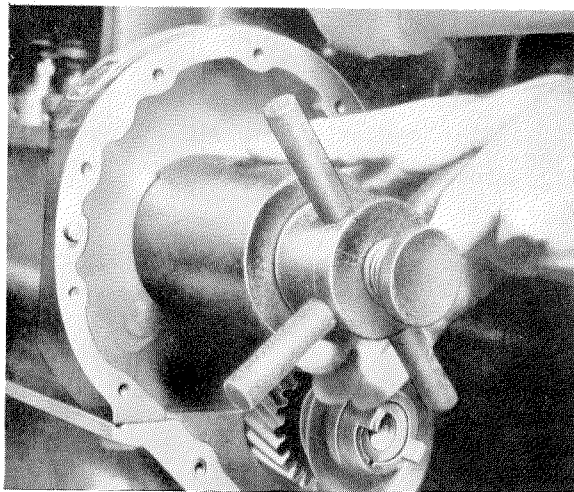

Figure 05-35/2
15. Pull the camshaft with the camshaft bearings out of the crankcase with the Extractor Part No. 136 589 10 33 (see Figure 05-35/2).
16. Drive out the rear and 3rd camshaft bearing (2), from the front towards the rear, with the Assembly Bolt Part No. 136 589 03 39 (see Figure 05-35/3).